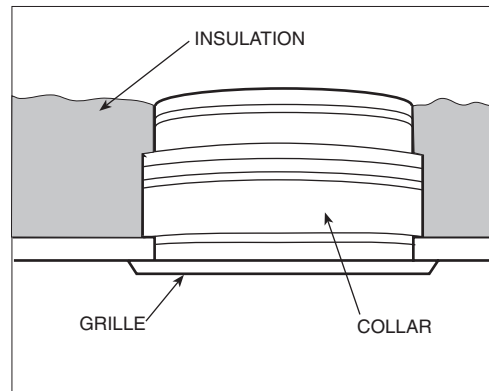

Fig. 1 — Grille and Collar (Side View)
6. Snap the grille into the mounting collar. Push the grille tightly in place for an airtight fit. Caulk any gap between the collar and the ceiling to prevent air leakage. Refer to Fig. 1.